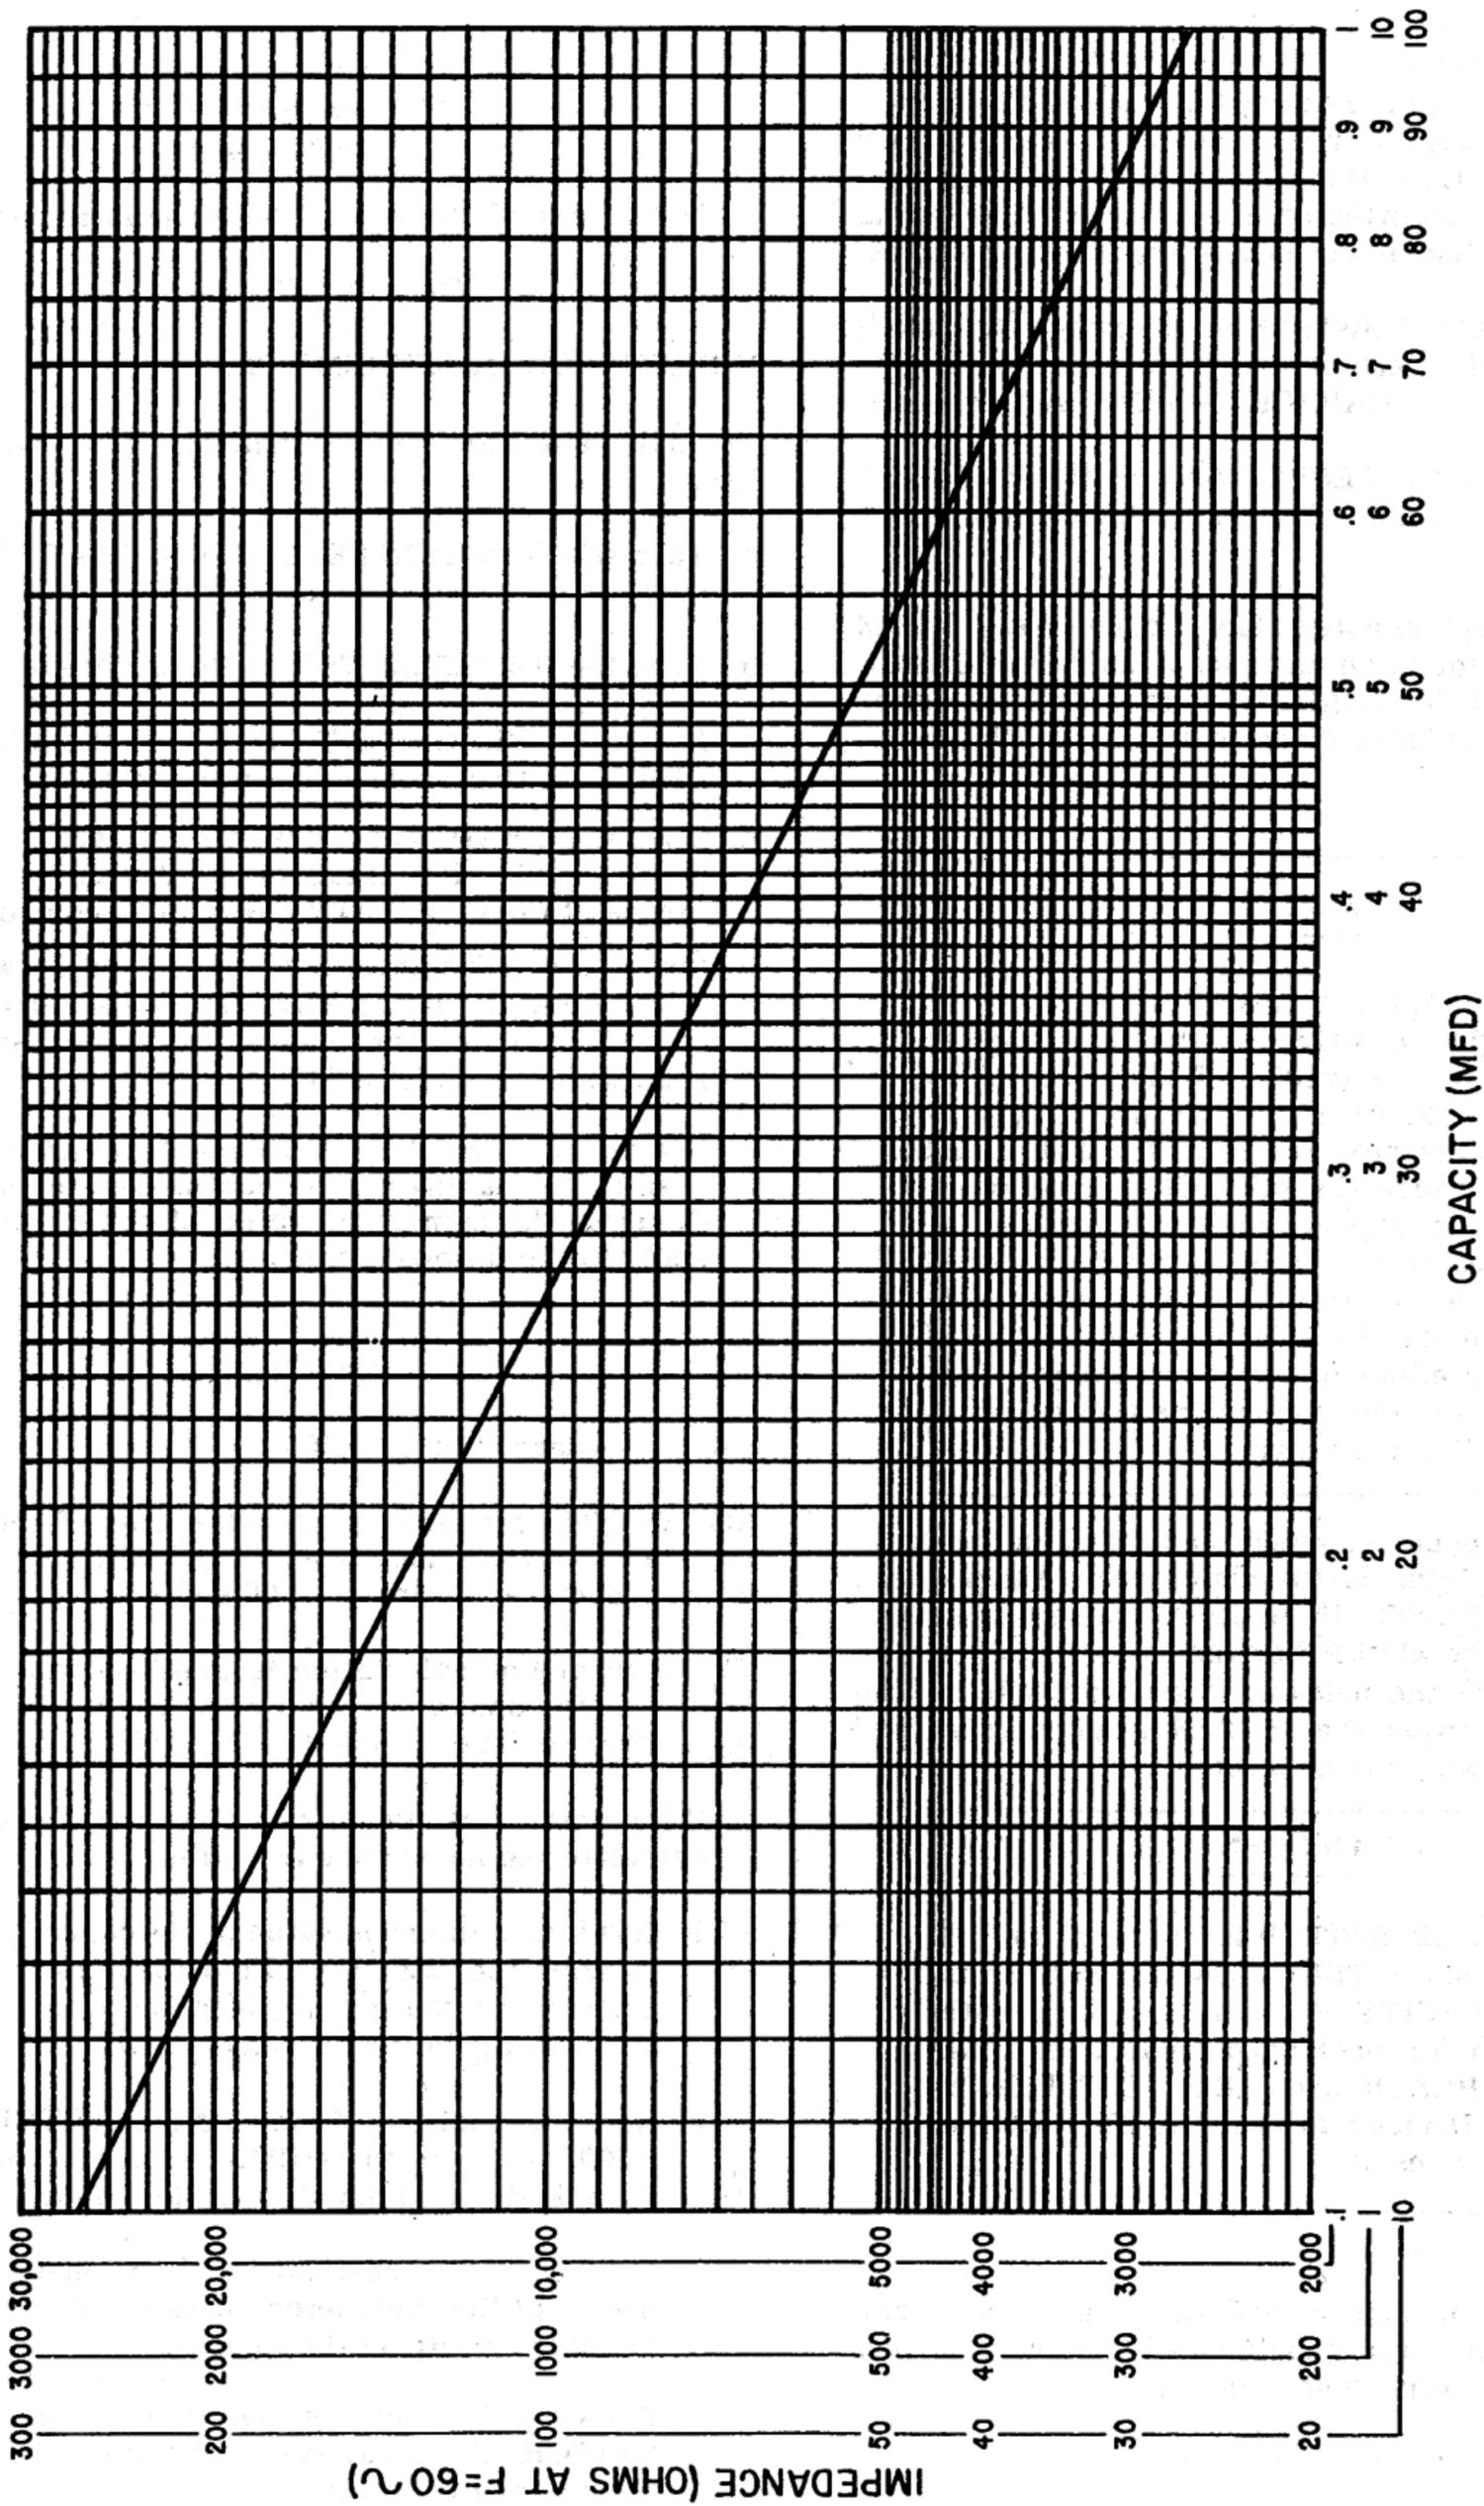

Figure 3. Capacity versus Impedance Graph
1. Read the numerical value of the capacity directly from the METER. Find the associated impedance on the graph given in figure 3. This value is  $Z_L$  in the formula below.
$Z_L$  = impedance in ohms (found by means of impedance graph, figure 3, from associated capacitance indicated on METER)
Therefore, the error due to resistance is greater than 1%. Referring to the graph in figure 3, it will be found that the impedance for a capacity reading of 8.8 MFD is 300 ohms. Substituting in the formula: